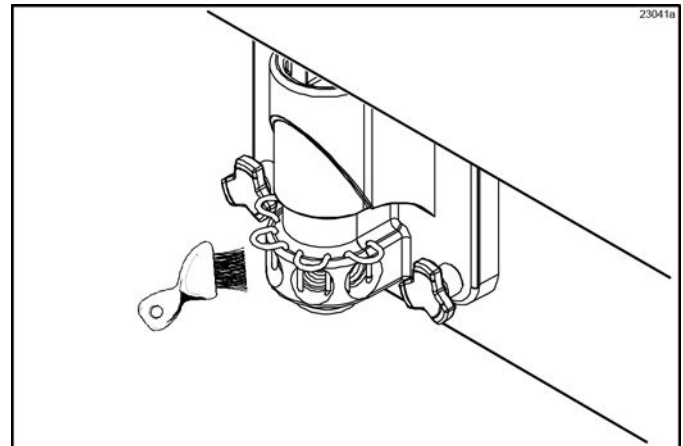

Figure 6-64
13. With the syrup port brush, brush each syrup port hole 10 to 15 times. Dip the brush in the cleaning solution before brushing each port. (See Figure 6-64.)